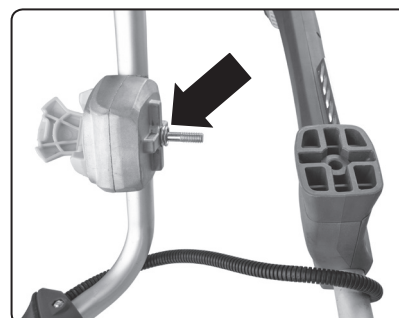

Fig. 11
1. Place the spring on to the handlebar fastening screw (fig. 11).